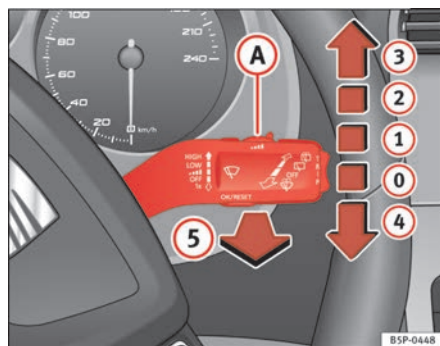

Fig. 85 Windscreen wiper and windscreen wash lever
The windscreen wiper lever ⇒ fig. 85 has the following positions:
- The next speed down will automatically be selected if speed ⇒ page 123, fig. 85  or  is selected when the vehicle stops. The set speed will be resumed when the vehicle starts again.